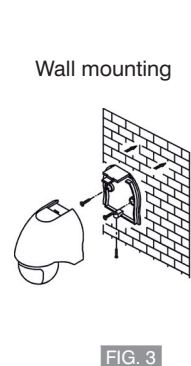

FIG. 3
- Height of installation recommended: for **wall mounting** 1,8 ÷ 2 m above the ground is needed (FIG. 3); for **ceiling mounting** 2,5 ÷ 4 m above the ground is required (FIG. 4).